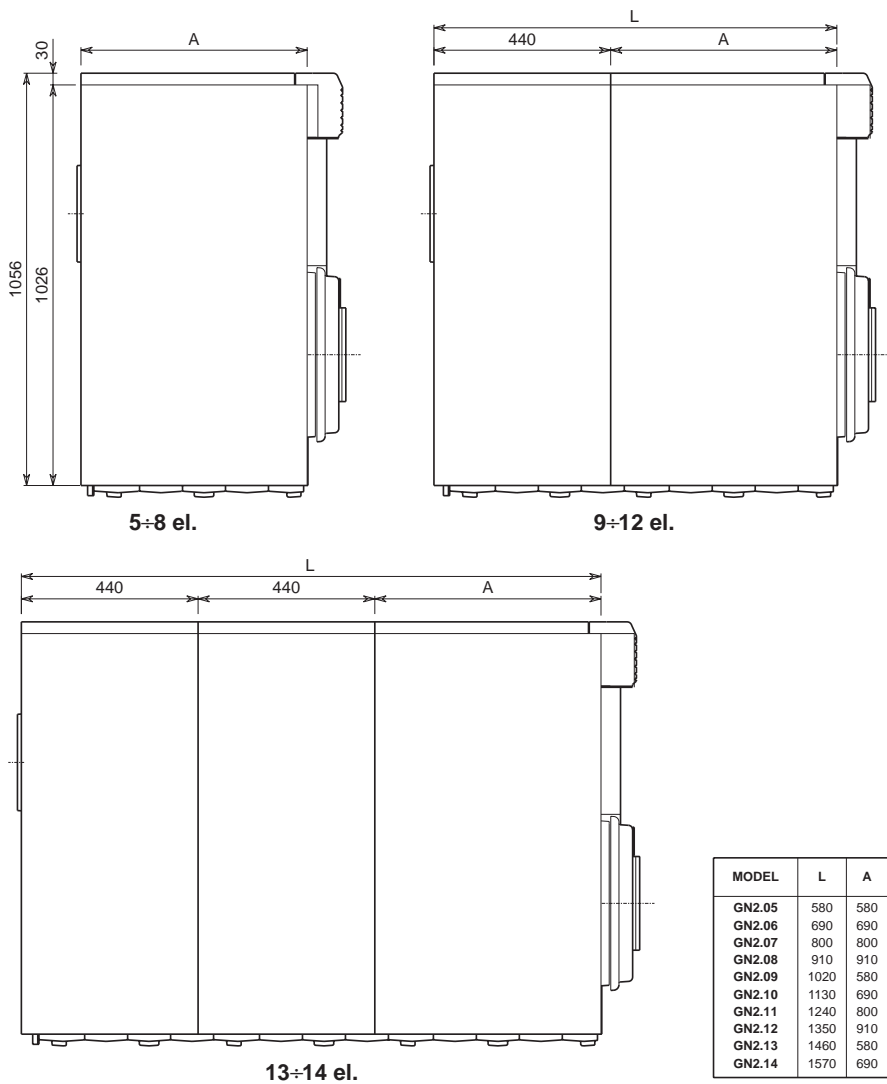

Fig. 25
5.02 (Fig. 25) Prepare the right and left sides, choosing the number of side panels according to the boiler dimensions (see table)(fig. 25).